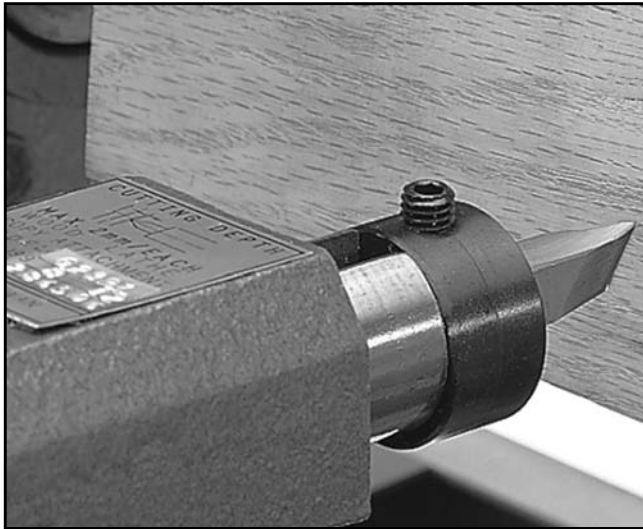

Figure 10. Cutting tool and setscrew.
2. Insert the cutting tool with the triangular cutting edge up. **See Figure 10.**